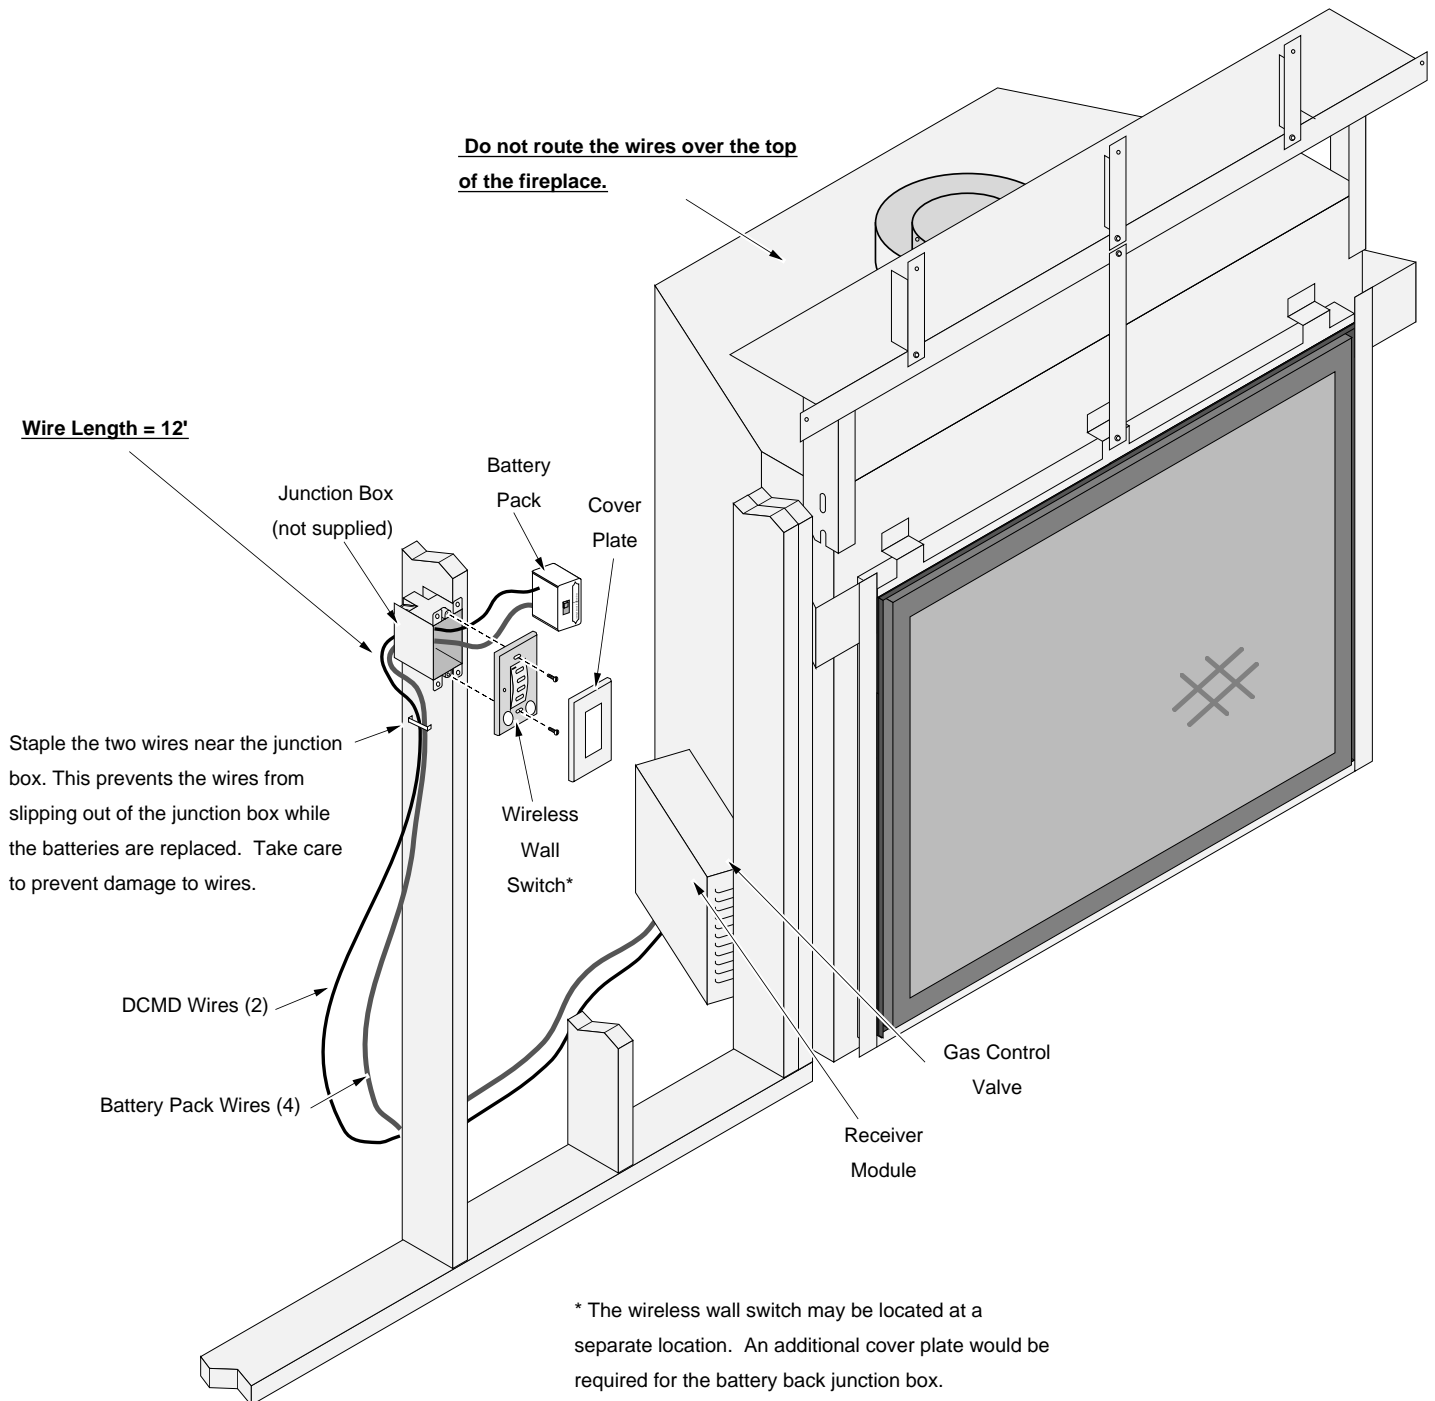
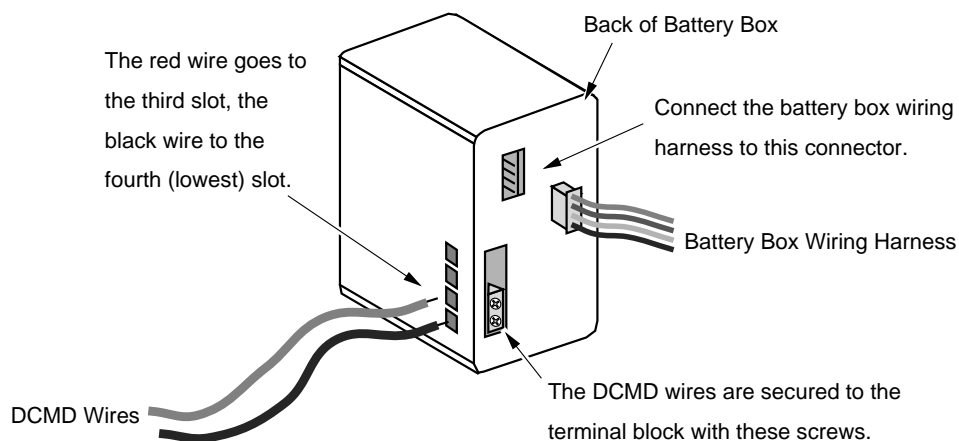

Figure 11
Figure 13
- The control panel must be mounted inside a junction box in a location that may be reached by the 12' long battery pack and DCMD wires (see Figure 11).
- Determine a location for the single-gang junction box that contains the battery pack and wireless wall switch. It must be located within 12' of the DCMD and battery pack wires that lead to the gas control valve and receiver module on the fireplace (see Figure 11). Mount the junction box.
- Insert the DCMD and battery pack wires through the junction box, leaving approximately 8" of slack so the battery pack may be removed and the batteries replaced. Use a staple or other means to secure the wiring to the framing – this prevents the wires from slipping out of the junction box in the event the wires become disconnected from the battery pack (see Figure 11). **NOTE:** The wiring is low-voltage (6V) and does not require a strain relief. Connect the DCMD and battery pack wires to the battery pack (see Figure 13).